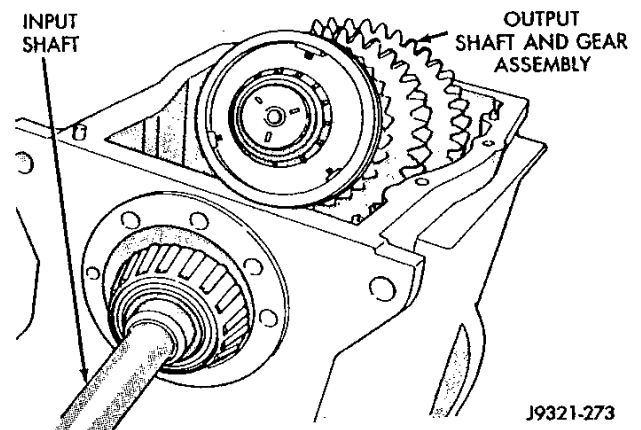

Fig. 62 Output Shaft And Geartrain Assembly Installation
(3) Install input shaft. Rotate shaft so flats on clutch teeth are facing downward. Then install shaft in case.
(4) Install output shaft and geartrain assembly in case (Fig. 62).